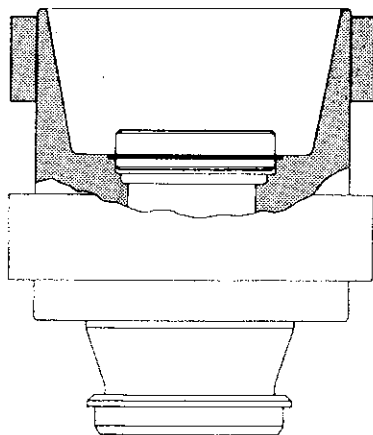

Figure 5.26
23. Install the bearing cover (34). Apply Loctite screw lock No. 242 to the six bearing cover screws (45) and torque to 59 - 73 in. lbs. (6.7 to 8.2 N·m).
24. Install retaining ring (34) in groove in drive housing bushing (33).
25. Install the drive housing bushing in the drive housing adapter. Be sure the retaining ring seats firmly against the adapter. See Figure 5.26.